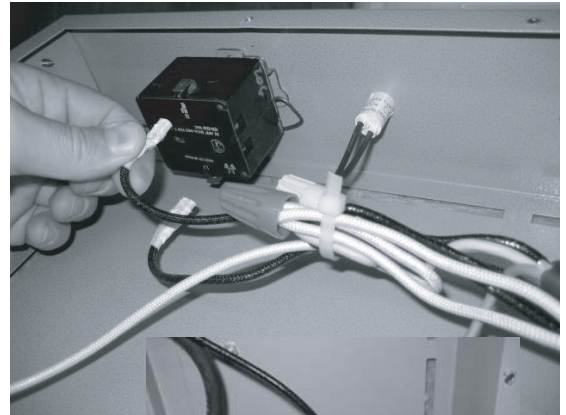

FIG.7
6. Pull the Capillary and Bulb the remainder of the way out of the oven and remove the two wire leads from the old thermostat's terminals and remove the old thermostat and capillary from the base of the unit. (FIG. 7) From the panel front, remove the single panel nut, or for later models, remove the two 8-32 screws that secure the thermostat to the front panel.